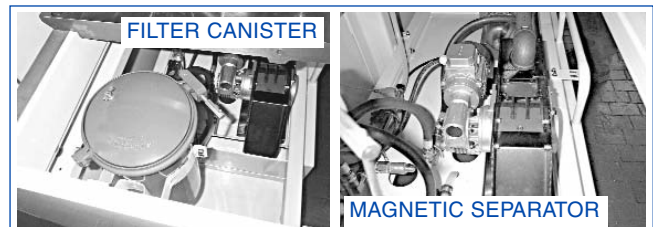

FIGURE 1-6, Coolant Reservoir
11. Slide Coolant Reservoir into position under left side of machine (see Figure 1-6).